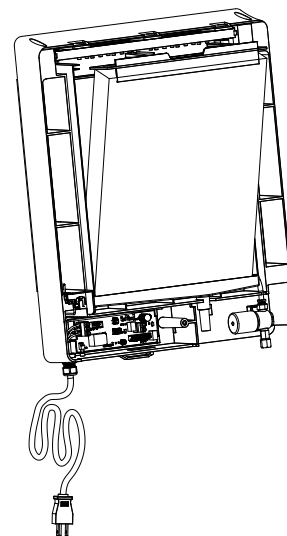

Figure 14
8. To remove the evaporator pad, push the retaining clips and pull the top pad retainer out from the base. The retainer and pad will come out together. The drain pan stays inside the unit. See Figure 14.